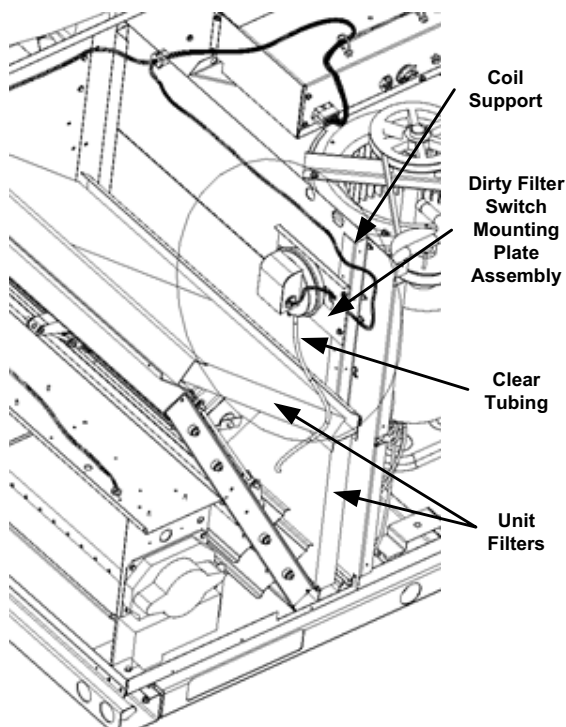

FIGURE 1
4. Attach the Dirty Filter Switch and mounting plate assembly on the coil support using two drill screws. See Figure 1.